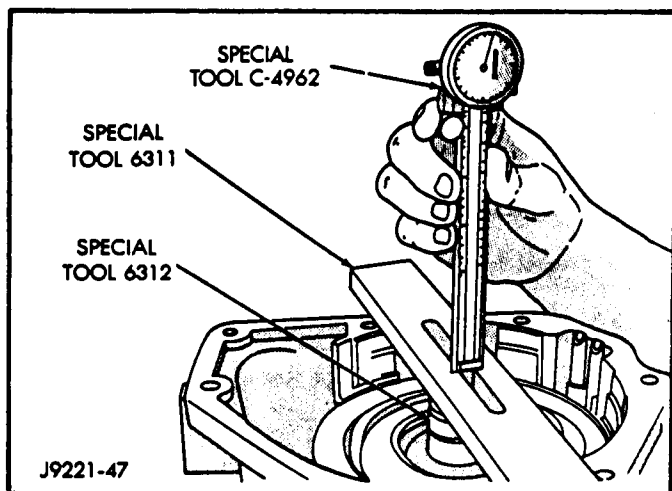

Figure 37
53. Insert Special Tool 6312 through the sun gear and into pilot bushing in the output shaft (See Figure 37).
54. Position Gauge Tool 6311 across face of the overdrive housing, as shown in Figure 37.
55. Then position dial caliper over gauge tool, as shown in Figure 37. Extend the sliding scale of dial caliper downward through gauge tool slot until the scale contacts the end of Gauge Tool 6312. Lock the scale in place, remove dial caliper and note distance measured.